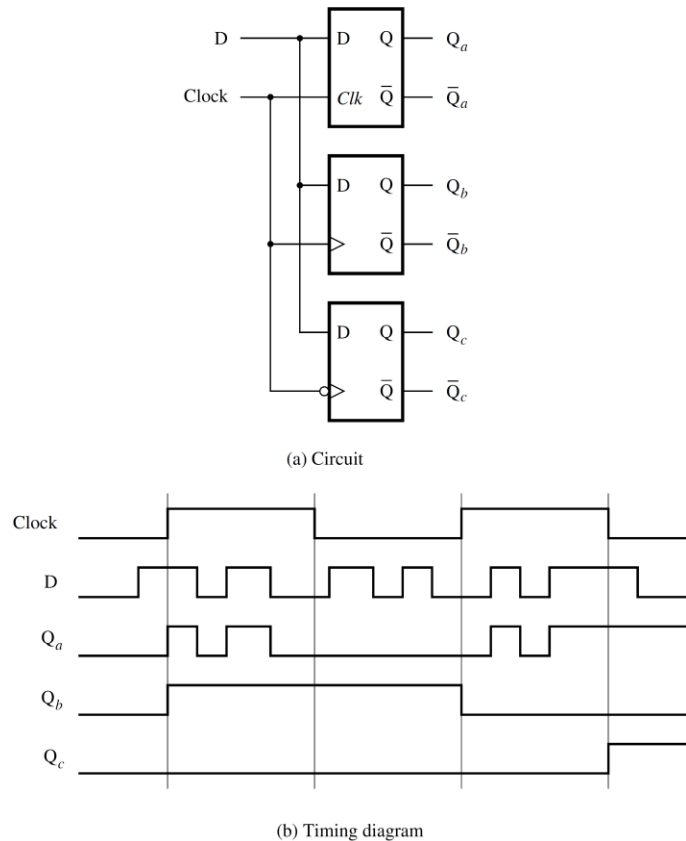

Fig. 15. Circuit and waveforms for Part XI.
Fig. 15 shows a circuit with three different storage elements: a gated D latch, a positive-edge triggered D flip-flop, and a negative-edge triggered D flip-flop.
Implement and simulate the circuit in Fig. 15 by using the Quartus II software as follows:
2. Write a Verilog file that instantiates the three storage elements. For this part you should no longer include the `/* synthesis keep */` directive in your Verilog code, because you will not be describing the exact structure of flip-flops like you did in Part X. Instead, you should use a style of Verilog code that will allow the Verilog compiler (in the Quartus II software) to automatically *instantiate* flip-flops that are provided as part of the FPGA logic elements. Such Verilog code is often called *behavioral* code, because it specifies a desired circuit behavior rather than an exact circuit structure. As an example, Fig. 16 gives a behavioral style of Verilog code that specifies the gated D latch in Fig. 13. This latch can be implemented in one 4-input lookup table. Use a similar style of code to specify the flip-flops in Fig. 15.
5. Create a Vector Waveform File (.vwf) which specifies the inputs and outputs of the circuit. You need to show it to the TA. Draw the inputs D and *Clock* as indicated in Fig. 15. Use functional simulation to obtain the three output signals. Observe the different behavior of the three storage elements.